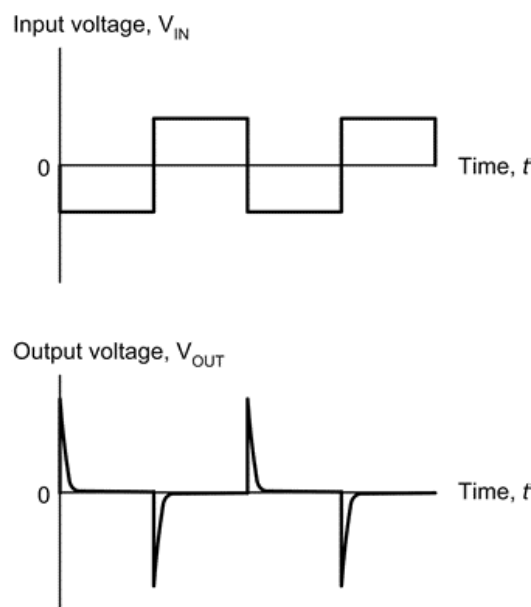

Figure 1.43 Typical input and output waveforms for a differentiator
- Typical input and output waveforms for a differentiator are shown in Fig. 1.43.